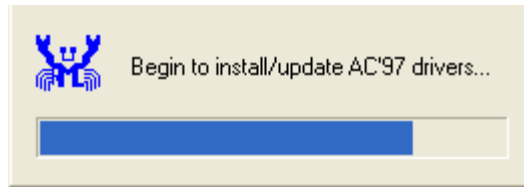

Figure 7-18: AC'97 Driver Installation
Step 9: The driver installation begins. See **Figure 7-18**.